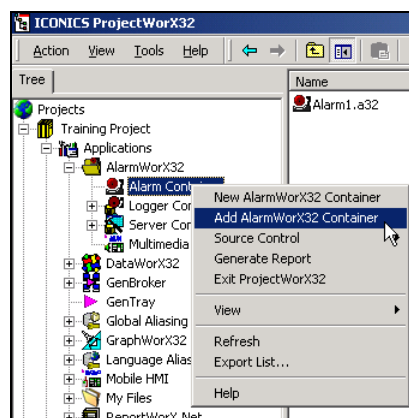

Figure 4.8
1. Right-click the project and select **Add [File Type]** from the pop-up menu, as shown in **Figure 4.8**.